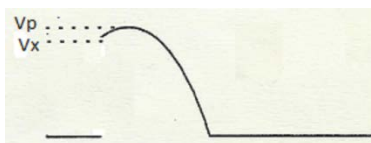

Figure 3. Firing angle waveform
7. Decrease the gate resistance such that the SCR is fired as shown in Figure 3.